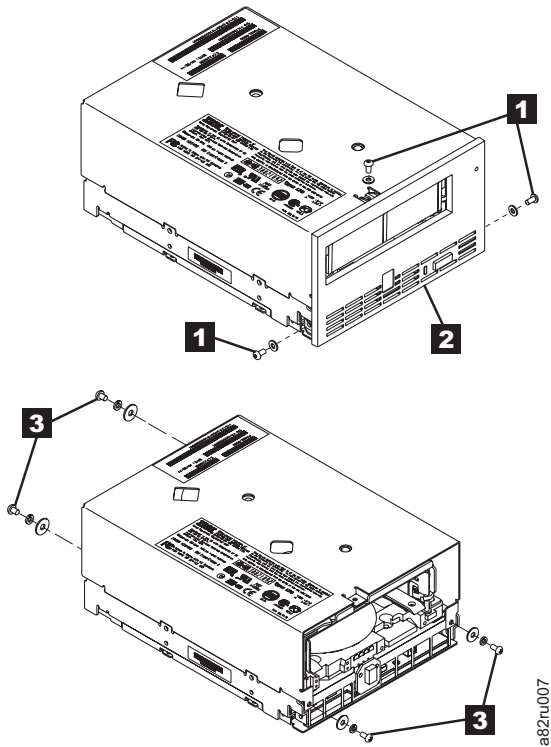

Figure B-2. Removing the cover from the internal drive
- a. Using a Phillips screwdriver, remove the three screws and washers (see **1** in Figure B-2 on page B-4) that secure the bezel **2** to the internal drive, then remove the bezel.